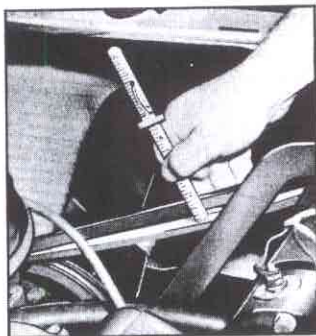

Fig. 46—Fan Belt Adjustment
2. Pull generator away from engine until desired belt tension is obtained. With correct adjustment a light pressure on the belt at a point midway between pulleys should cause a  $\frac{3}{16}$ " to  $\frac{1}{2}$ " deflection (fig. 46).